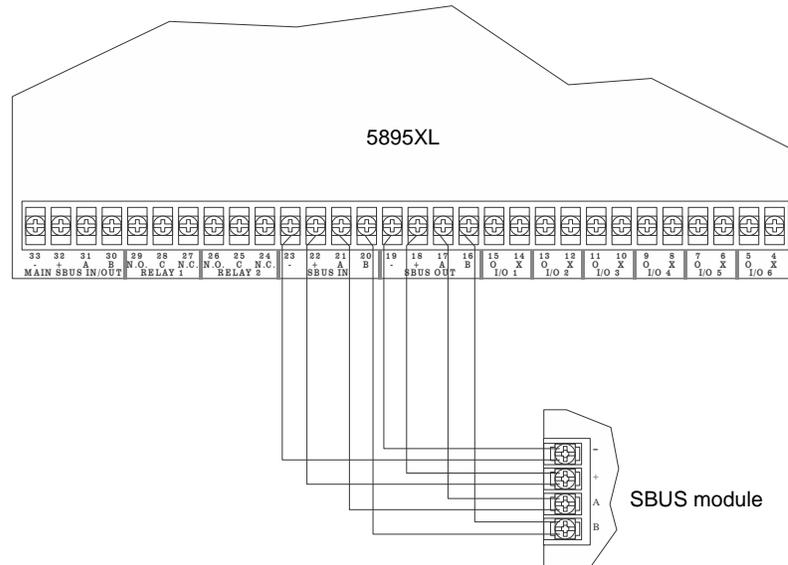
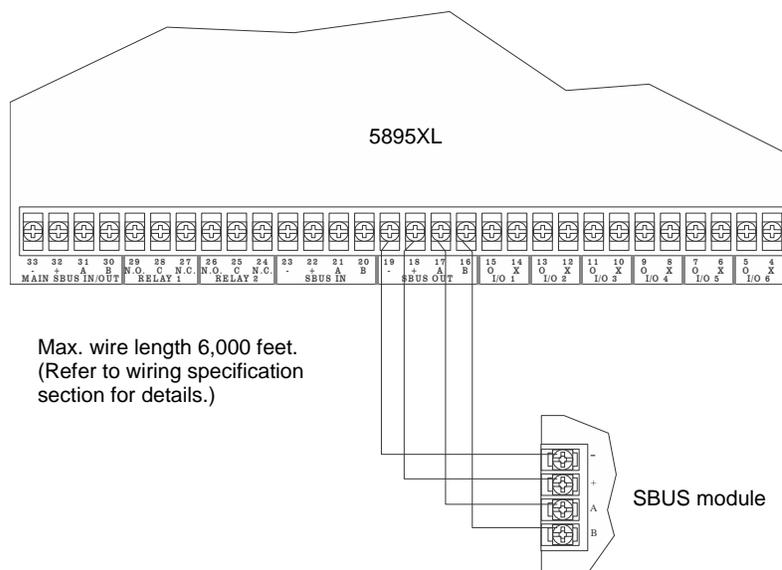

Figure 3.8 SBUS Class A Connection to 5895XL
Figure 3.9 SBUS Class B Wiring to 5895XL
1. Connect SBUS modules to the 5895XL as shown in Figure 3.8 or Figure 3.9.